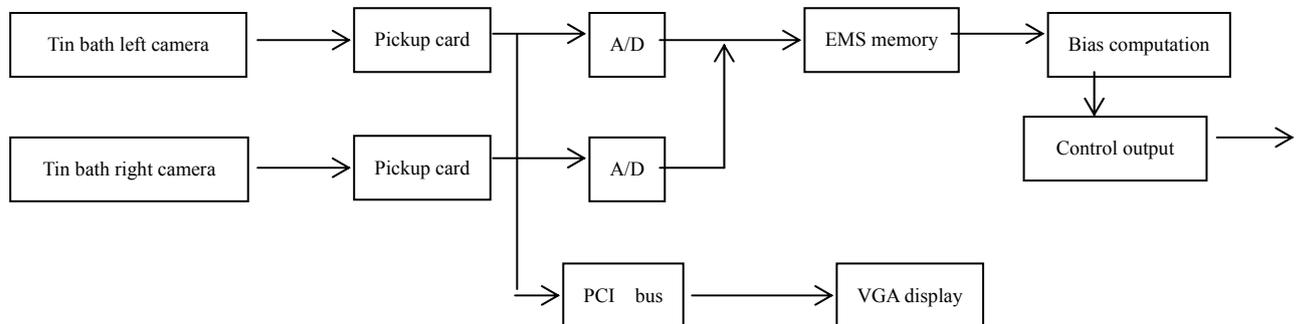

Fig. 1 Working Principle
1.2 Working principles of the system: As shown in Figure 1